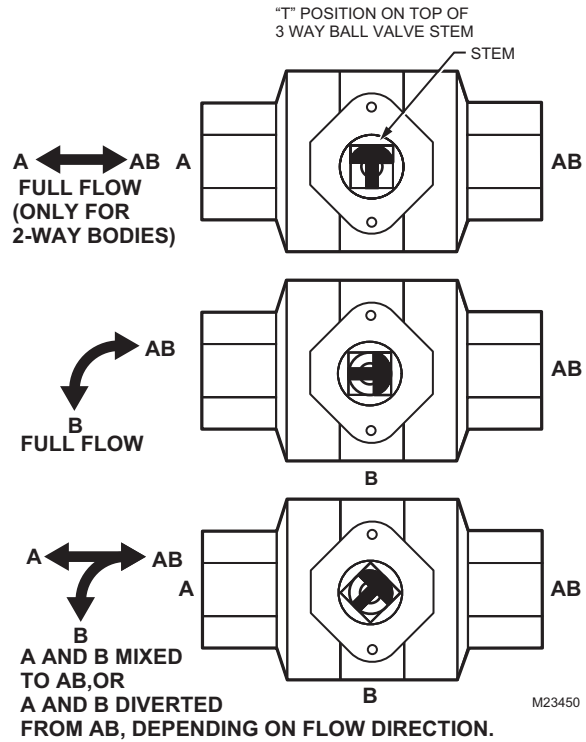

Fig. 7. Orientation of ball in valve
NOTE: After valves have been installed in the piping, the installer can determine the ball orientation within the valve from the notches in the top of the valve stem. For two-way valves, the lengthwise direction of the notch indicates the flow through the ball (i.e. when the notch is parallel to the axis of the valve between A and B ports, the ball will allow flow through the valve). For three-way valves, the flow can be determined by the orientation of the "T" shaped notch in the valve stem, as shown in Fig. 7.
6. Valve must be mounted with the actuator/bracket above the valve body. Do not install the valve with the stem below horizontal or upside down. (See Fig. 7 and 8.)